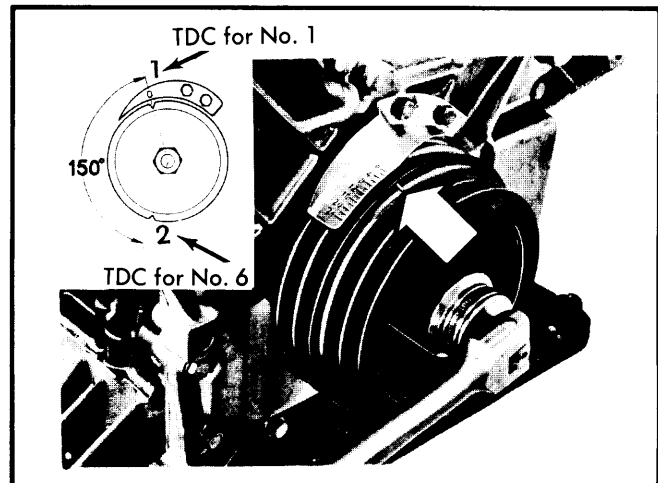
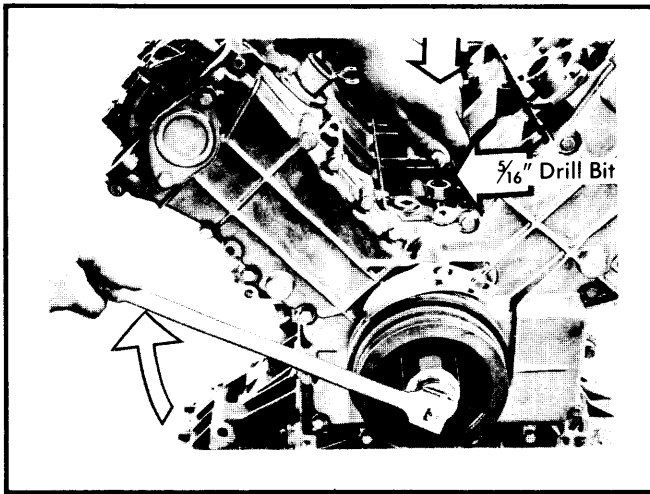

Fig. 5 Adjusting Crankshaft to Firing Position for No. 1 Cylinder
Fig. 7 Locating Top Dead Center for No. 1 Cylinder
1) Rotate crankshaft so that mark No. 1 is at 20° mark on ignition timing plate. See Fig. 5. Remove plug and insert  $\frac{5}{16}$ " (7.94 mm) drill bit or similar rod into hole and against crankshaft counterweight. See Fig. 7. Rotate crankshaft in direction of normal rotation until drill bit can be pressed into recess in counterweight (TDC for No. 1 cylinder).
1) Rotate crankshaft with  $1\frac{7}{16}$ " (36 mm) wrench to bring No. 1 piston to TDC. See Fig. 5. In this position, both rocker arms for No. 1 cylinder should have clearance and not rock. Check and adjust the following cylinders for clearance: Intake valves on cylinders 1, 2, and 4; exhaust valves on cylinders 1, 3, and 6 (White valves in Fig. 8).